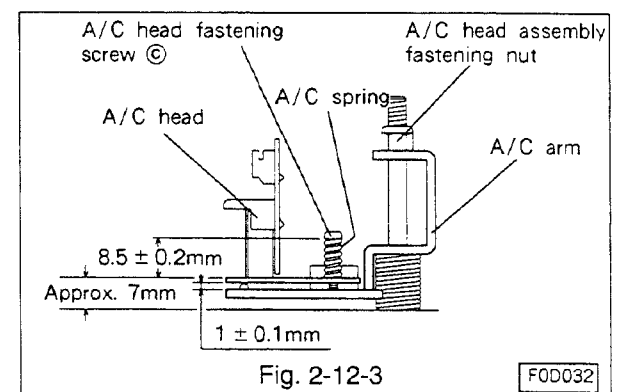

Fig. 2-12-3
Install the A/C head to the A/C arm so that the base surface of the A/C head shall be parallel to the A/C arm, and their spacing and the A/C head installation screw (c) height shall be as specified in Fig. 2-12-3.
- Tighten the A/C head assembly fastening nut so that the base surface of the A/C head shall be about 7mm above the main plate surface.(Refer to Fig. 2-12-3.)